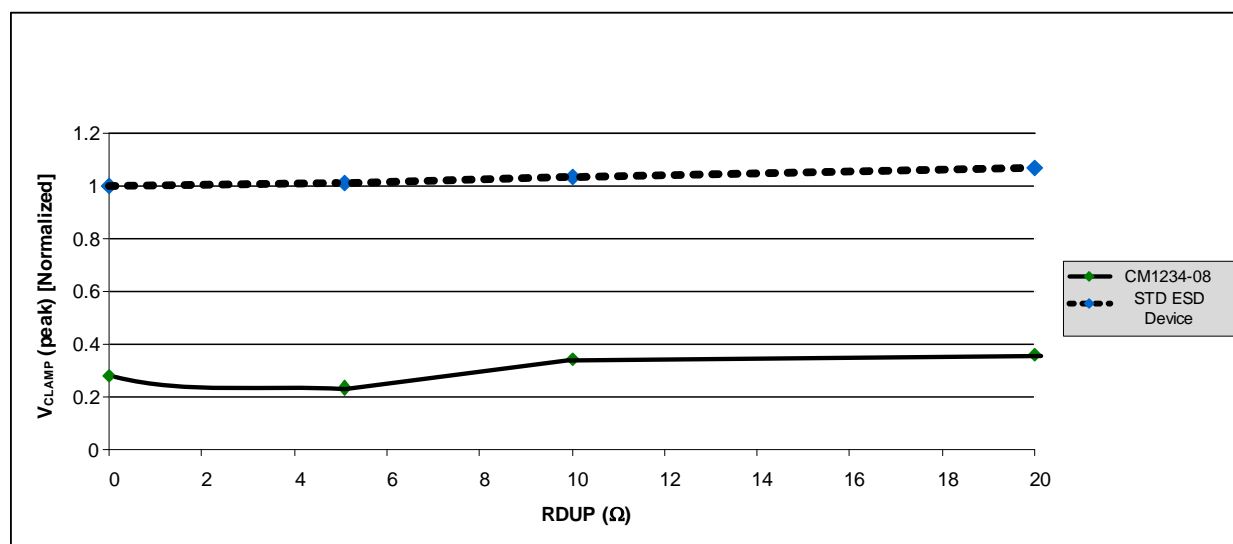
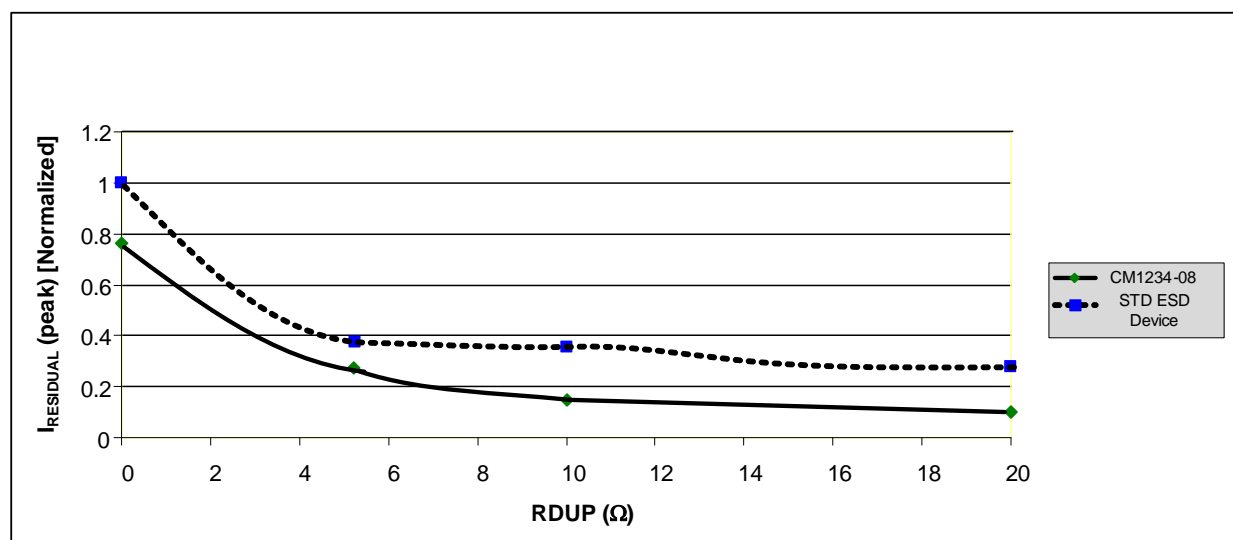
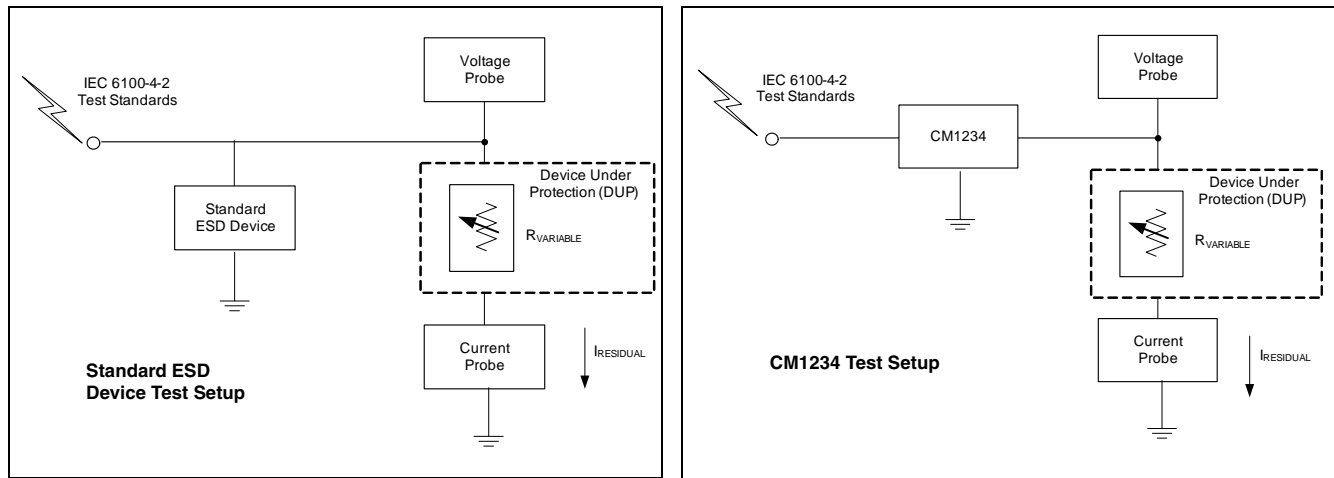

Figure 4. V_{CLAMP} vs. $RDUP^*$ (ASIC) – 8kV Contract Strike
Figure 5. $I_{RESIDUAL}$ vs $RDUP^*$ (ASIC) – 8kV Contract Strike
Figure 6. Test Setups: Standard Device (Left) and CM1234 (Right)
Figure 4 shows that the CM1234 (*PicoGuard XS* ESD protector) lowers the peak voltage and clamping voltage by 45% across a wide range of loading conditions in comparison to a standard ESD protection device. Figure 5 also indicates that the DUP/ASIC protected by the CM1234 dissipates less energy than a standard ESD protection device. This data was derived using the test setups shown in Figure 6.
* $RDUP$ is the emulated Dynamic Resistance (load) of the Device Under Protection (DUP). See Figure 6.